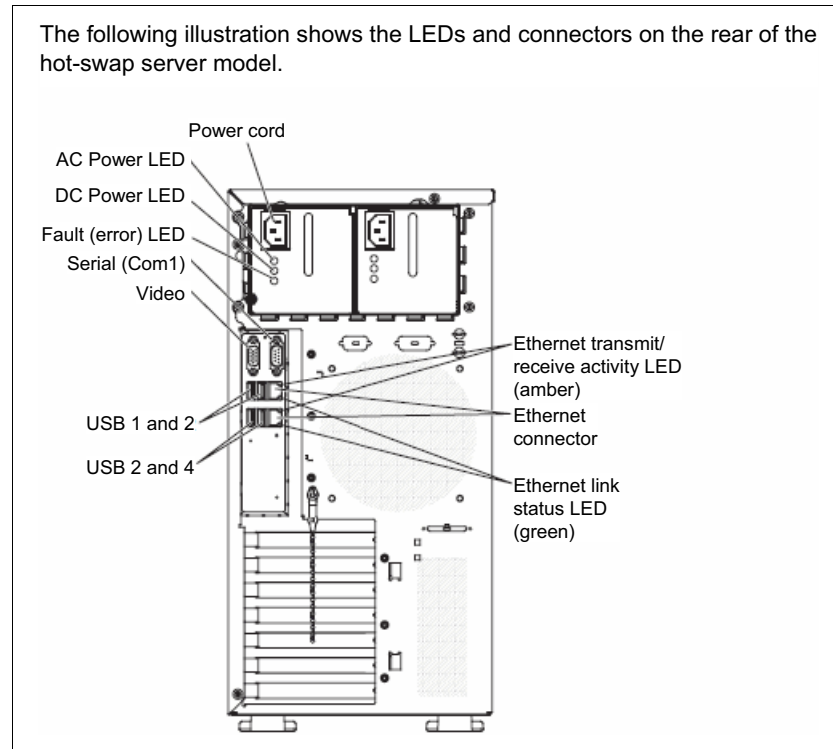

Figure 3-4 Rear view of a stand-alone HMC 7042-C08
- A stand-alone HMC 7042-C08 (Figure 3-4 on page 63)
Figure 3-4 shows a stand-alone HMC 7042-C08.